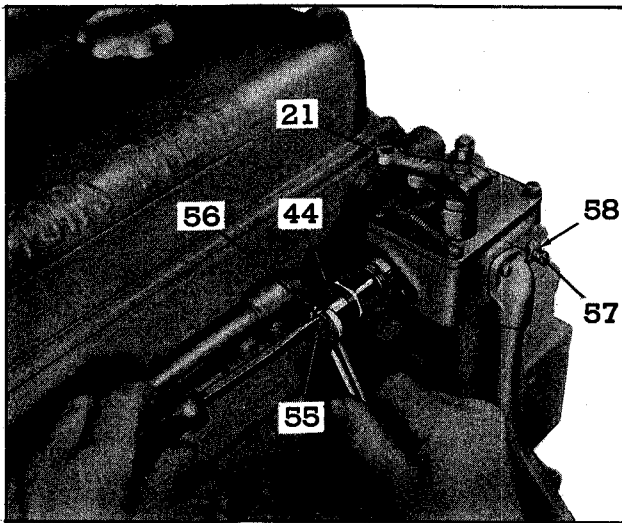

Fig. 8—Adjusting Engine Idle Speed.
1. Loosen lock nut (49), Fig. 8, and back off high speed spring retainer (50) approximately five turns.
2. With engine at operating temperature, no load on the engine, place control lever (21) in the FULL FUEL position. Turn high speed spring retainer in until the engine is operating at the recommended no-load speed.
1. With engine running at normal operating temperature and with buffer screw (57), Fig. 8, backed out to avoid contact with the differential lever, turn idle speed adjusting screw (55) until the engine idles at 15 r.p.m. below the recommended idle speed.